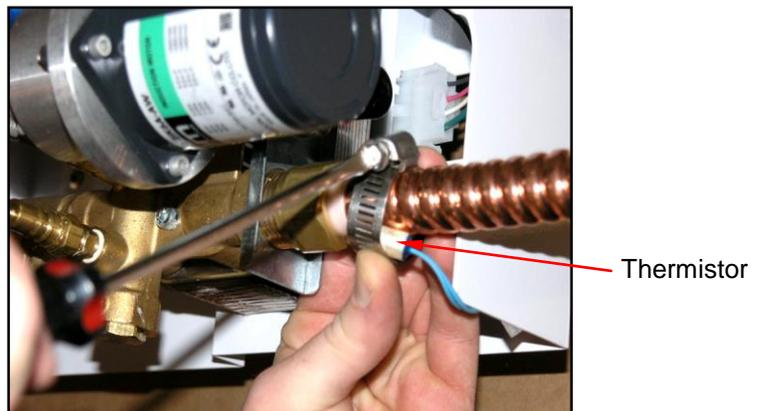

Fig.4.2.2 – Thermistor clamped to corrugated copper pipe close to lower manifold
8. Storage tank temperature sensor, or thermistor, is taped to inside of Energy Station housing at lower right and connected to Controller by two blue wires. Slide hose-clamp over corrugated copper pipe and fasten thermistor to smooth surface of corrugated pipe, as close to tank as possible (*Figs.4.2.2*). Do not over-tighten as thermistor may dent and damage corrugated pipe.